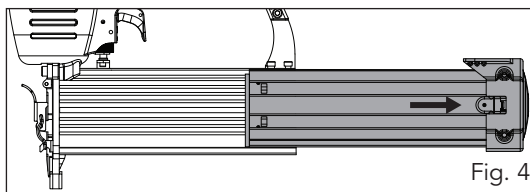

Fig. 4
2. Slide the magazine cover (6) all the way to the rear of the magazine (7) (fig. 4).